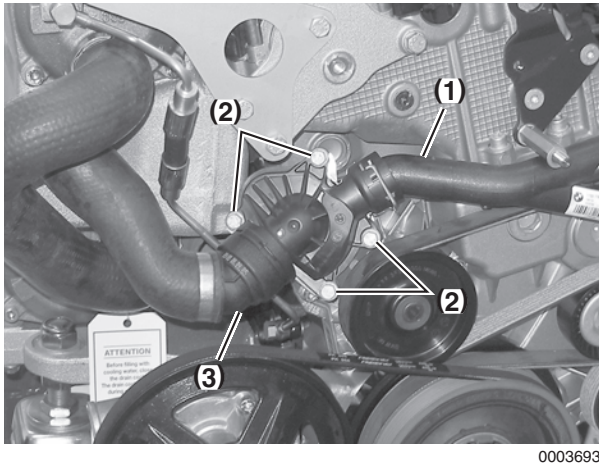

Figure 7-21
3. Release clips on coolant hoses (**Figure 7-21, (1, 3)**). *See Disconnect and Connect Quick-Connect Fittings on page 7-11.*
4. Disconnect hose (**Figure 7-21, (3)**) from coolant pump.
5. Remove four bolts (**Figure 7-21, (2)**).
6. Remove the thermostat and housing assembly and pull off from coolant pipe (**Figure 7-21, (1)**).